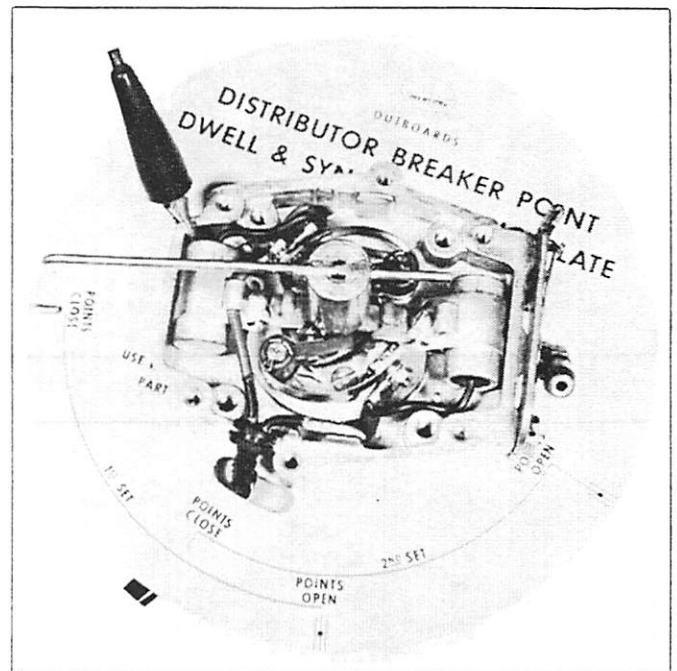

Figure 2. Dwell Plate C-91-30356A1
5. Move degree plate in either direction which is required to place "Points Close" mark directly under indicator arm. (Figure 2 or 3)